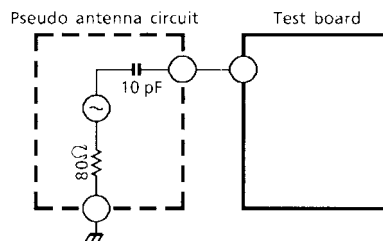

Figure 2
- (3) The characteristics of the SW bands are measured using the pseudo antenna circuit shown in Figure 2 below :